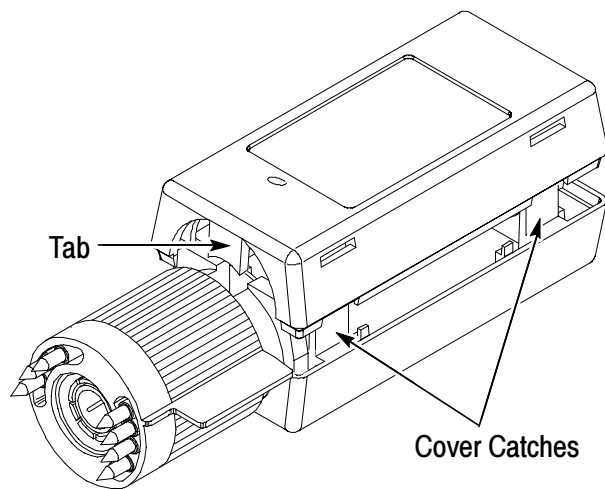

Figure 10: Replacing the compensation box cover
1. Carefully align the tab and cover catches. Refer to Figure 10 on page 18.